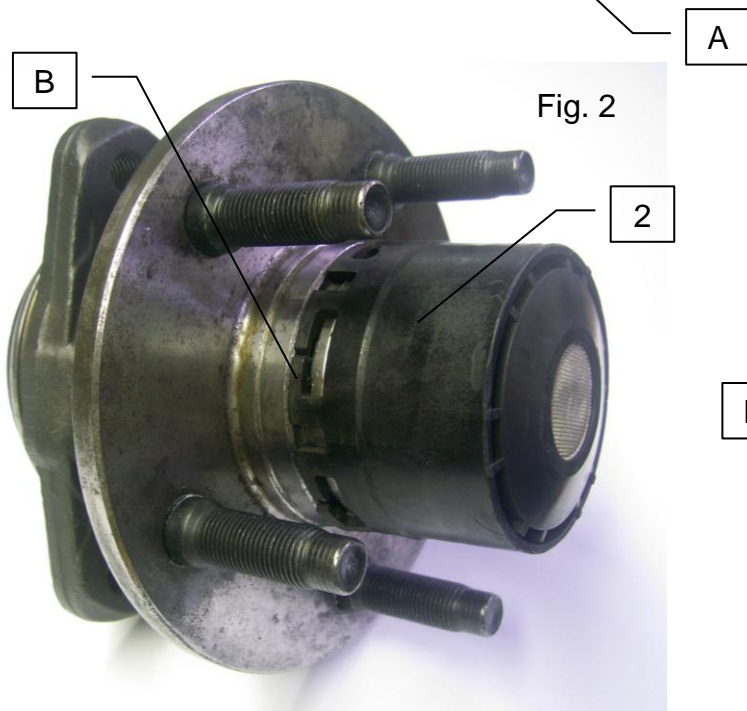
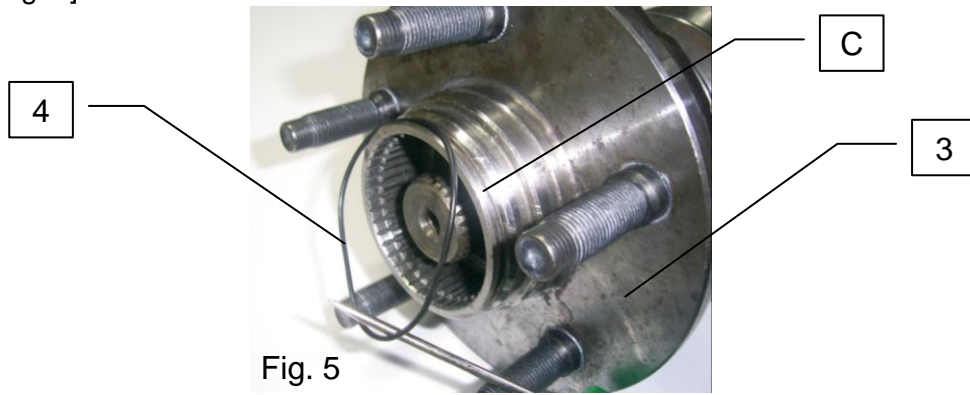

Fig. 2
Fig. 5
- 2- Remove the existing freewheel hub (2) [Fig. 2] using a screwdriver "A" of suitable size [Fig. 3] to release the claws "B" attachment.
4- Remove from the wheel hub channel "C" (3), the O-ring (4) [Fig. 5] of the removed freewheel hub (2) [Fig. 2].